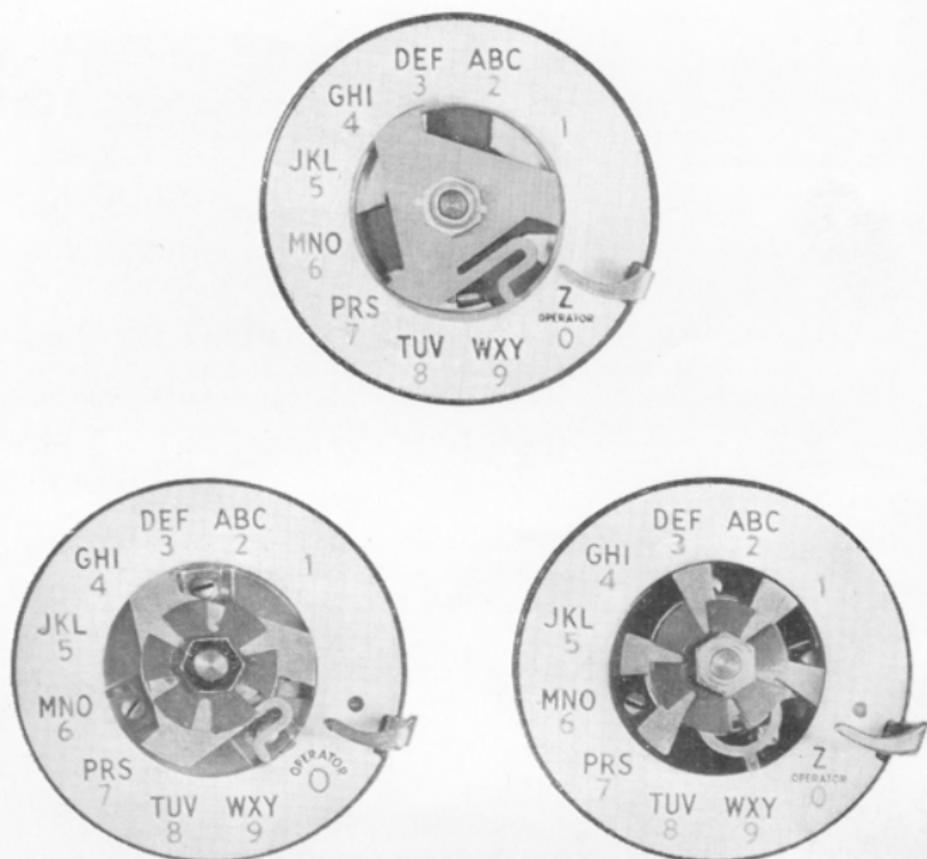

Fig. 15—Clamp Plates Mounted on Dials
- (1) With dial in normal position, place proper finger-wheel clamp on dial hub so that its spring portion is near the "9" on the number plate. Refer to Fig. 15.
- (2) Place finger-wheel washer and nut on hub and tighten. Omit spring washer on 4- and 5-type dials.
- (3) Place station number card in accordance with 13.02.